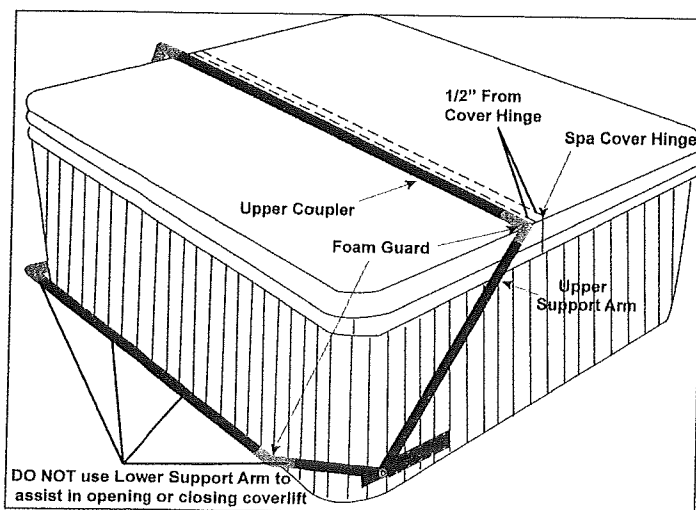

Figure 6
6. Adjust and center the Upper Coupler and Upper Support Arm so that the Coupler is lying parallel to the spa cover's hinge (the center seam of the cover) and approximately 1/2" away from it. (See Figure 6)
The Lower Support Arm and Coupler just needs to clear the back spa panel when the cover lift is in position as shown in Figure 6.